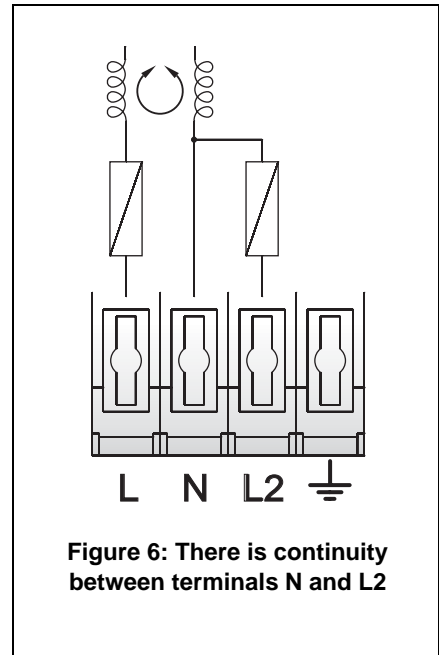

Figure 6: There is continuity between terminals N and L2
- If using a **single-phase system**, connect the power cable's neutral wire to terminal **N** and connect the power cable's live wire to terminal **L**. **Important! Do not connect the live wire to terminal L2 as there is electrical continuity between this terminal and terminal N (see Figure 6).**